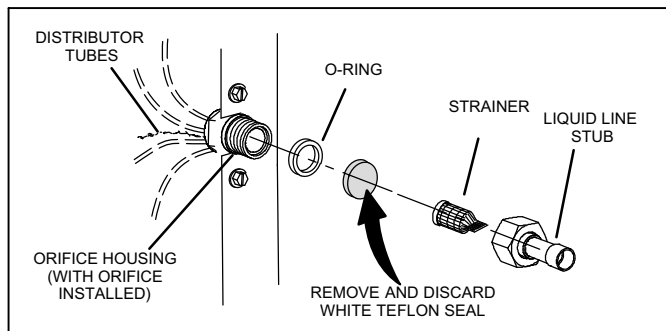

Figure 9. Typical Fixed Orifice Removal
4. Remove and discard orifice, valve stem assembly if present and Teflon ring as illustrated in figure 9.